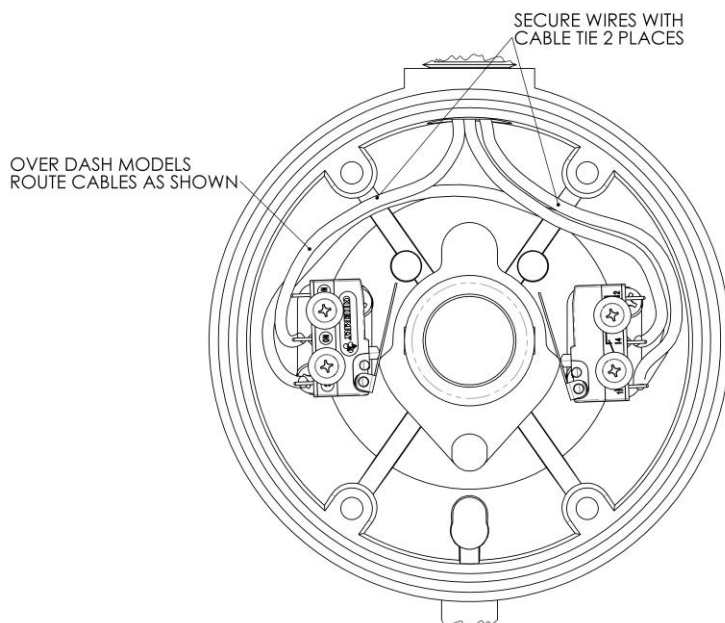
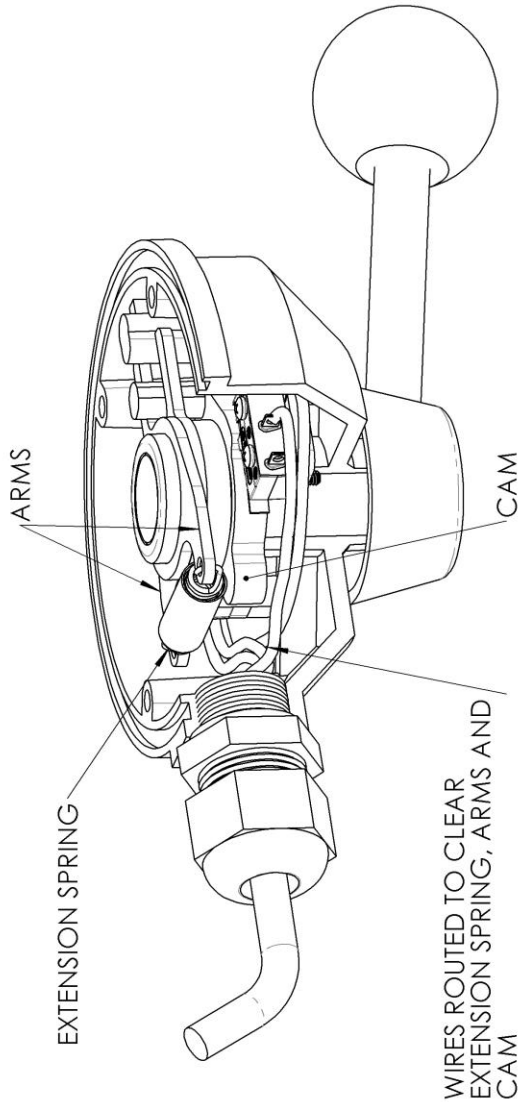

Figure 13: Microswitch wire routing, 7170-A1 shown.
Figure 14: Wire routing showing particular parts to ensure adequate clearance, 7170-A1 shown.
1. The actuation lever of microswitch ② is clear of any obstructions through its range of motion.
2. The microswitch ② lever is depressed enough to actuate the switch contacts when the jog lever is pushed.
This can be done by checking for continuity across the Normally Open(N.O) terminal 4 and the Common(C) terminal 1. See Figure 13 for clarity on terminals being checked. When the switch is depressed, terminal 1 and 4 should have continuity.
3. The microswitch ② lever is not over actuated:
For over dash jogs(7170-X1) refer to the routing shown in Figure 13 and Figure 14.
Ensure that wires are clear of moving parts such as the cam, spring arms and spring as identified in Figure 14.
14. Use X2 plastic cable ties to secure the routed wires together in the positions indicated in Figure 13.